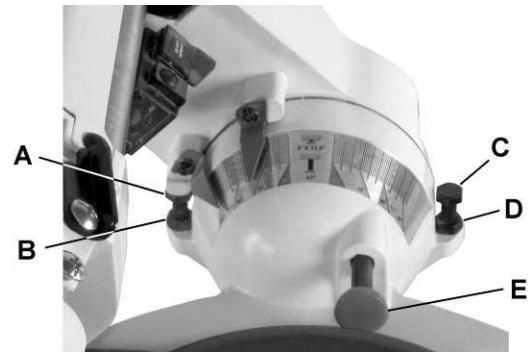

Figure 12
- To adjust, tilt the cutting arm to zero degrees, loosen the *lock nut* (B, Fig. 12) and turn the *stop bolt* (A, Fig. 12) in or out accordingly.
- Repeat steps 1–4 if necessary until the blade is 45° to the table, then tighten the *lock nut* (B, Fig. 12) to secure the *stop bolt* (A, Fig. 12).
- Set the miter angle to zero degrees. Fully extend the sliding fence completely to the right then pull the bevel detent pin (E, Fig. 12) out.
- To adjust, tilt the cutting arm to zero degrees, loosen the *locknut* (D, Fig. 12) and turn the *stop bolt* (C, Fig. 12) in or out accordingly.
- Repeat steps 1–4 if necessary until the blade is 45° to the table, then tighten the *lock nut* (D, Fig. 12) to secure the *stop bolt* (C, Fig. 12).
- Tilt the cutting arm to the 33.9° left bevel position and engage the positive stop by pushing the *bevel detent pin* (E, Fig. 12) in.